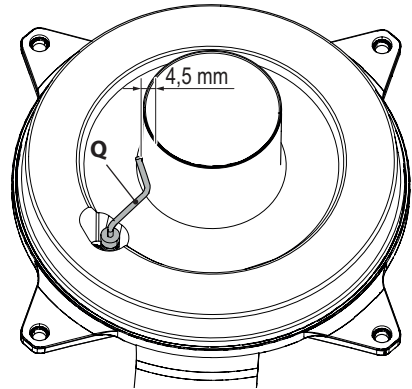

Figure 9.13
- The ignition/detection electrode **Q** in Figure 9.13 also serves as a sensor for correctly draining the condensate.